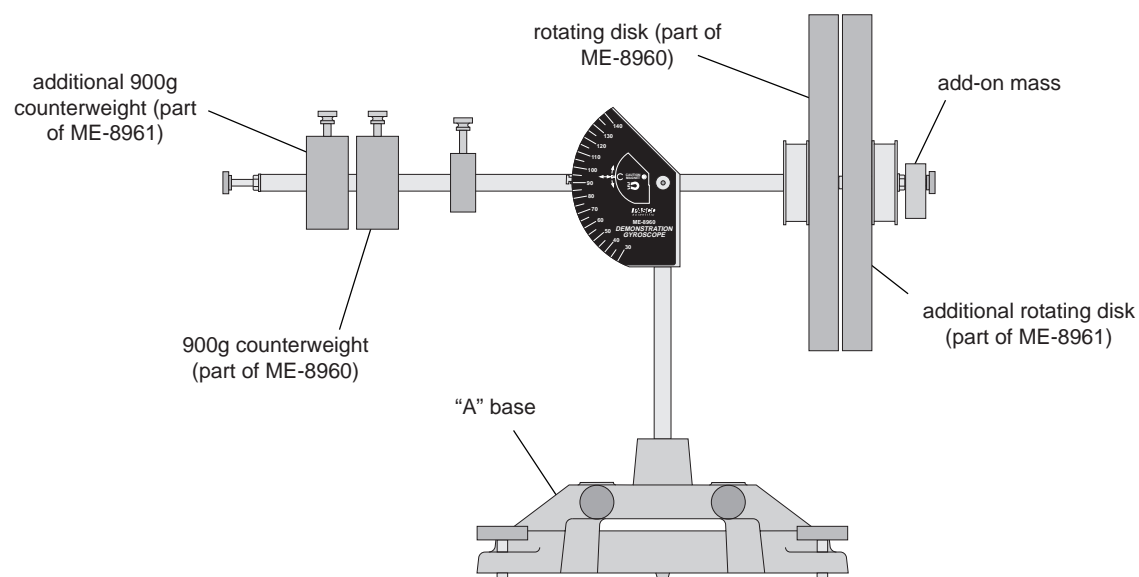

Figure 2.1: Counter-rotating disks
- ① Remove the screw in the end of the shaft and slide the second disk onto the shaft with the pulley side facing away from the first disk. Secure the second disk by tightening the screw in the end of the shaft. See Figure 2.1.
- ② Put the second counterweight on the other end of the shaft and slide the counterweights until the gyroscope is balanced. Spin the disks and check the balance by seeing if the gyroscope precesses. If it precesses, the balance needs further adjustment.
- ③ Cut two pieces of string, each 1 meter long. Tie one end of each string to the ends of a pen. The pen will be used to pull the two strings simultaneously. Tie a loop in the other end of each string to hook over the dowel pins.
- ④ To make the direction of rotation more visible to the students, stick a white paper dot on the edge of each disk.